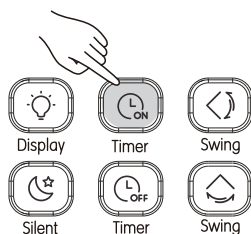

Figure 3.17
① Press  (see Figure 3.17), and the remote controller will display "Timer On", and "0.0H" will appear in the timer area. Adjust the Timer On settings now;